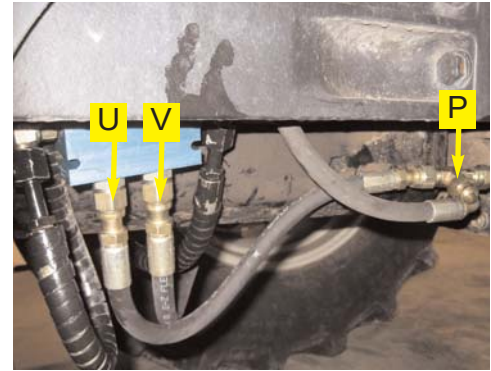

Figure 7g. Steering lines connected at the counter-balance valve.
- e. Connect the hydraulic steering hoses (U and V) from the end of the run tees (P) on the steering cylinder to the C1 and C2 ports of the counter balance valve. The shorter hose (U) connects to the right end of the cylinder and the longer hose (V) connects to the left end. (Figure 7g. and 7h.)
- f. After the hoses are connected to the counter-balance valve, slide it inside the right frame rail and use the included tie straps to hold it in place. (Figure 7g.)